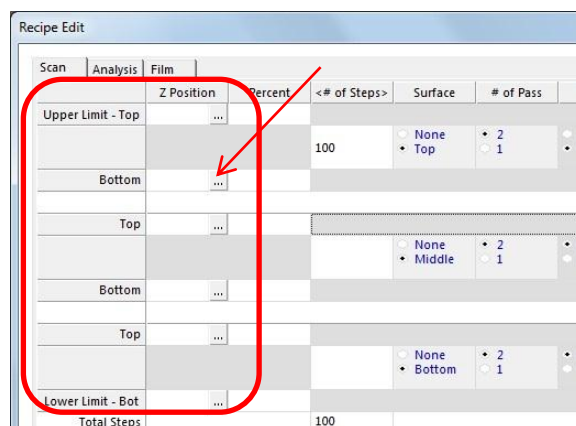

Fig. 89. Section boundary positions and Use Current Position button
6. Set the top and bottom locations for each section so that each one is roughly centered over the three focus positions. To do this, move the head using the **PgUp** and **PgDn** buttons or keys; the F11 key toggles between fast and slow movement. The mouse scroll button is not used in this operation. When the head is at the desired position, click the dots next to a number field to enter the current Z height into the field, as shown in Fig. 89.